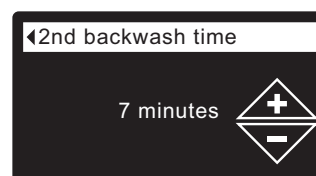

FIG. 81
- 8c. **Second backwash time:** Press the UP (▲) or DOWN (▼) buttons to change the second backwash time. Hold the button down to rapidly advance. The time can be set from 0 to 30 minutes (See Figure 81).